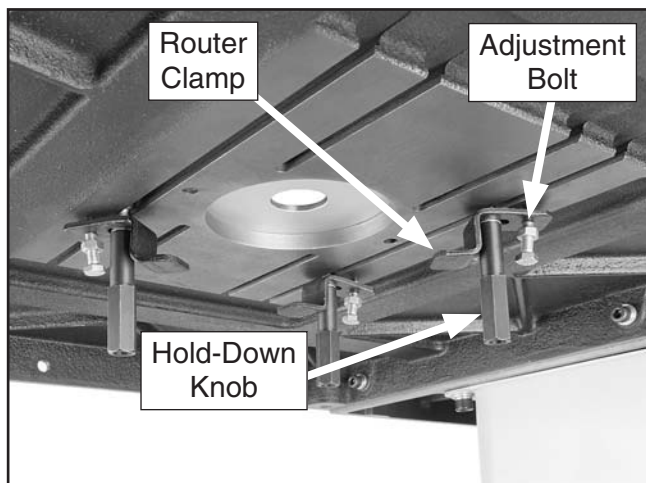

Figure 19. Router hold-down assembly controls.
2. Slide three of the router hold-down assemblies into the T-slots underneath the router table so that they allow room for the router base, as shown in **Figure 19**.